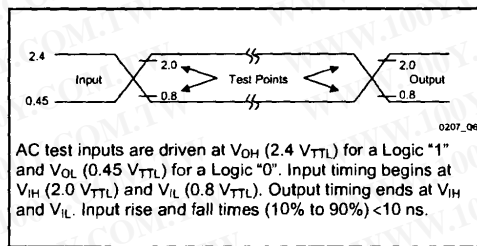
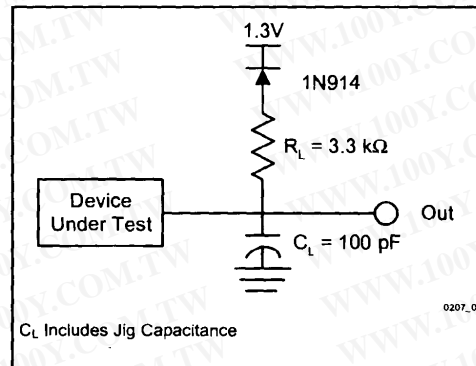

Figure 6. Testing Input/Output Waveform
Figure 7. AC Testing Load Circuit
5. See *Testing Input/Output Waveform* (Figure 6) and *AC Testing Load Circuit* (Figure 7) for testing characteristics.
- See *Testing Input/Output Waveform* (Figure 6) and *AC Testing Load Circuit* (Figure 7) for testing characteristics.